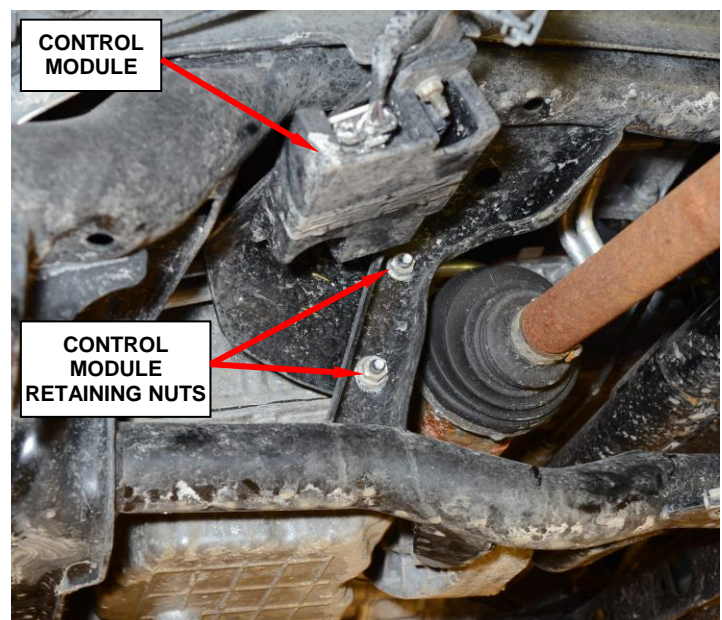

Figure 8 – Control Module Retaining Nuts
15. **If equipped**, remove and save the two control module retaining nuts and relocate the control module (Figure 8).
36. **If equipped**, place the control module into position and install the two retaining nuts (Figure 8).